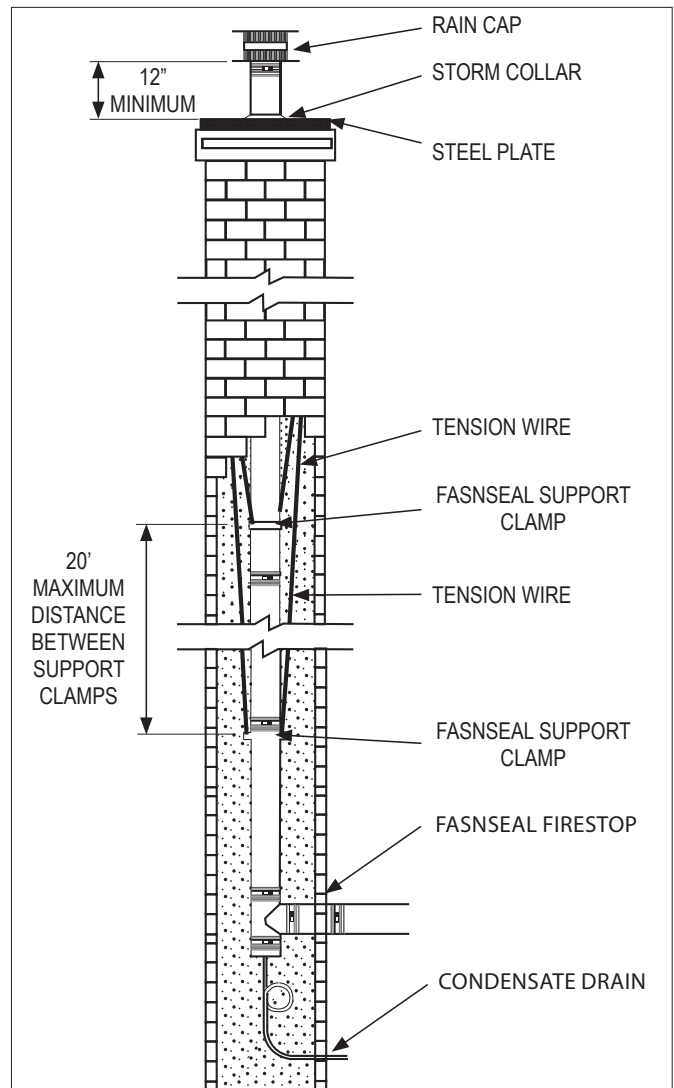
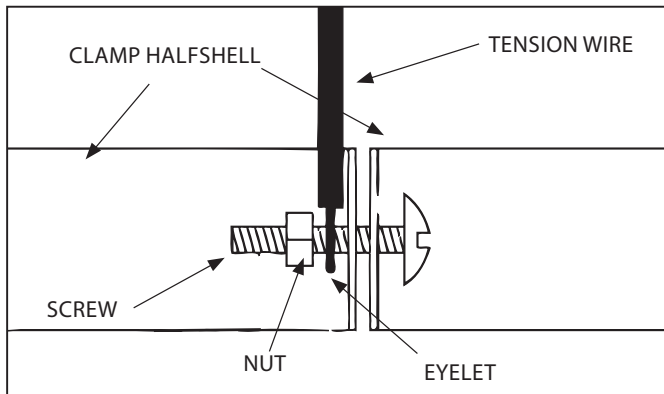

Figure 7
Figure 9
As an alternative method to supporting installations that pass through a masonry chimney, a series of tension wires and FasNSeal support clamps can be used. Refer to **Figure 7** for a typical installation. It is critical to use enough clamps and proper bracing to safely support the weight of the entire vertical stack. DuraVent, also recommends the use of a FasNSeal drain fitting at the base of the vent. In all situations, it is important to make sure that all workmanship meets and/or exceeds jurisdictional requirements. Contact the local building inspector regarding codes or regulations that might be applicable to your installation. These instructions are based on an installation through a typical masonry chimney. Consult the DuraVent Engineering Department, at 800-835-4429 or via e-mail at techsupport@duravent.com, if your installation has any significant variations.
2. Install a FasNSeal support clamp at the base of the vent stack. The first support clamp should be located directly below the upper joint on the bottom most straight vent length (Figure 7). Refer to Figure 9 for the proper method of securing tension wires to the FasNSeal support clamp. Do not fasten the cable between the clamp half-shells. This will prevent the clamp from gripping the vent stack properly.